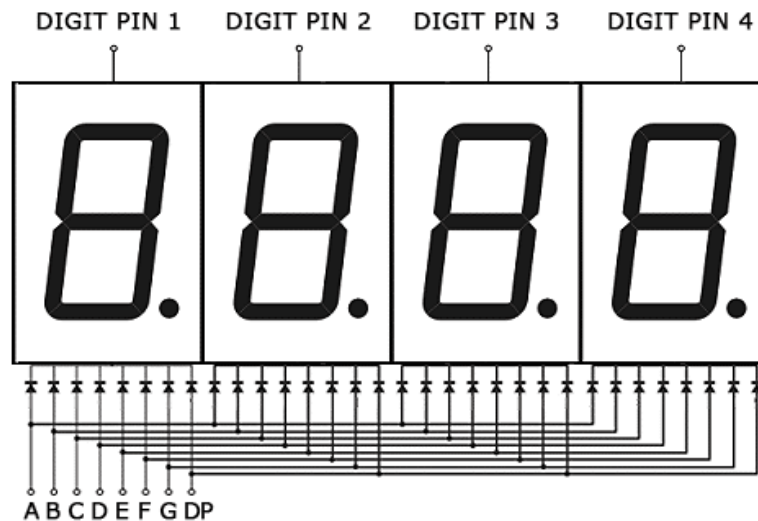

Fig. 3. Connecting 4 seven-segment LEDs for time multiplexing
4. Connect the 4 SSDs as shown in Fig. 3. Connect the SSD data pins to KL25Z through current limiting resistors. Connect the SSD common anode digit pins to the GPIO through a transistor drive circuit.